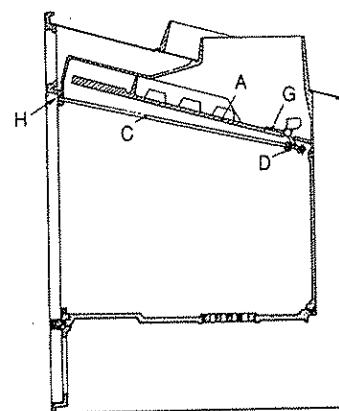
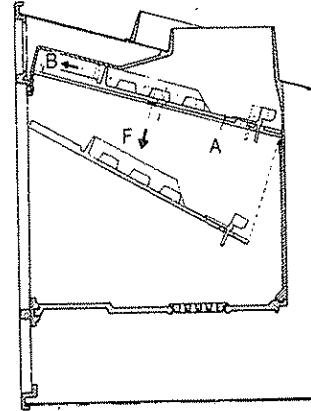

Fig. 1
Fig. 2
Dismounting and cleaning the baffle plate (see Fig. 1, Fig. 2).
2.^o Slide the baffle plate "A" forwards (direction "B") until the side-locking pivots coincide with the corresponding slots, causing the plate to fall (direction "B1" (Fig. 2).